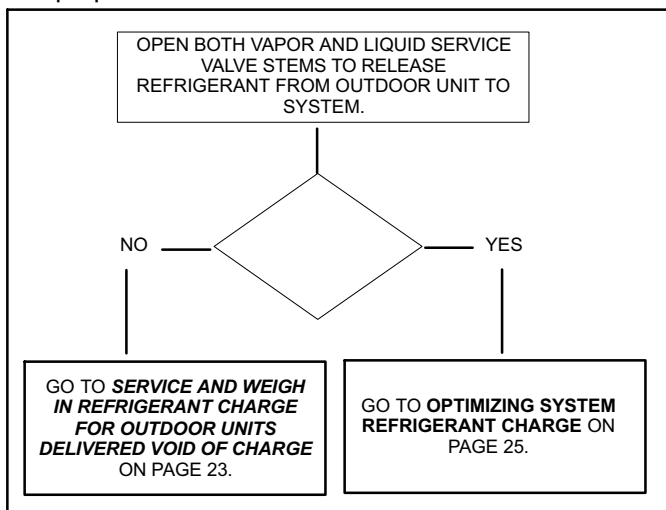

Figure 19. Outdoor Unit Factory Charge
7. Use figure 19 to determine next step in system preparation.